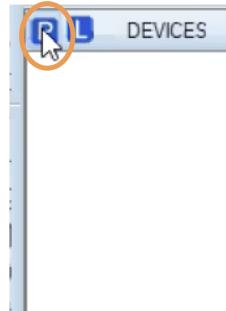
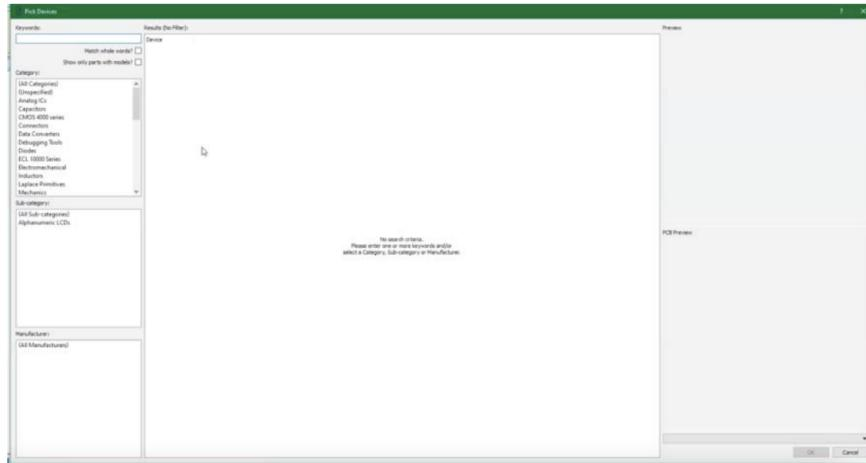
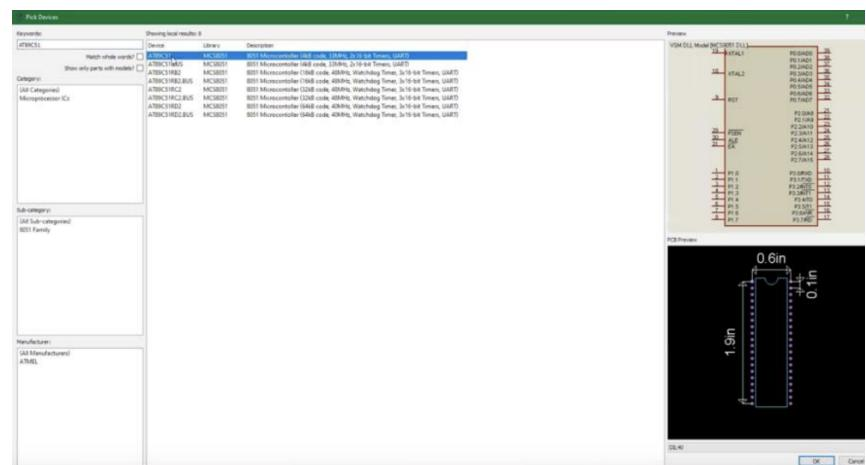
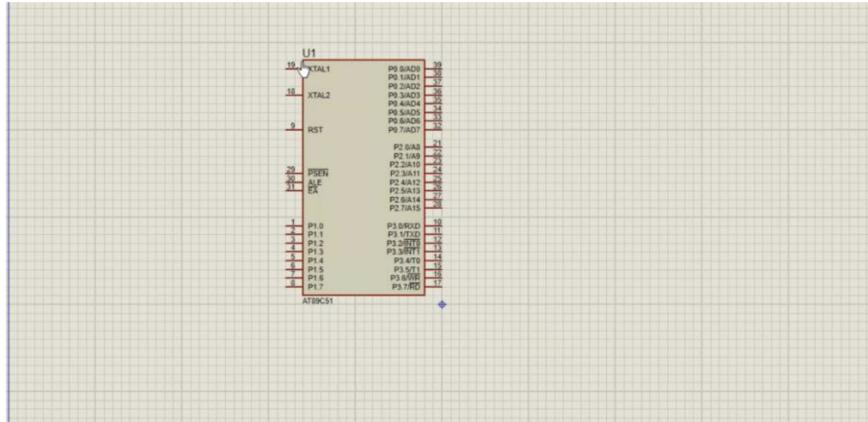

Figure 5: Click on the "P" button with a blue background.
Figure 6: Select the microprocessor (AT89C51) by typing 'AT89C51' into the search field.
Figure 7: Select the microprocessor (AT89C51) by typing 'AT89C51' into the search field.
Figure 8: Then, click the 'OK' button to drag it and you can see that virtual microprocessor is added to your project.
3. Click on the "P" button with a blue background as shown in Figure 5. Next, on the opened page (Figure 6), select the microprocessor (AT89C51). Please type 'AT89C51' into the search field (Figure 7). Then, click the 'OK' button to drag it (Figure 8).